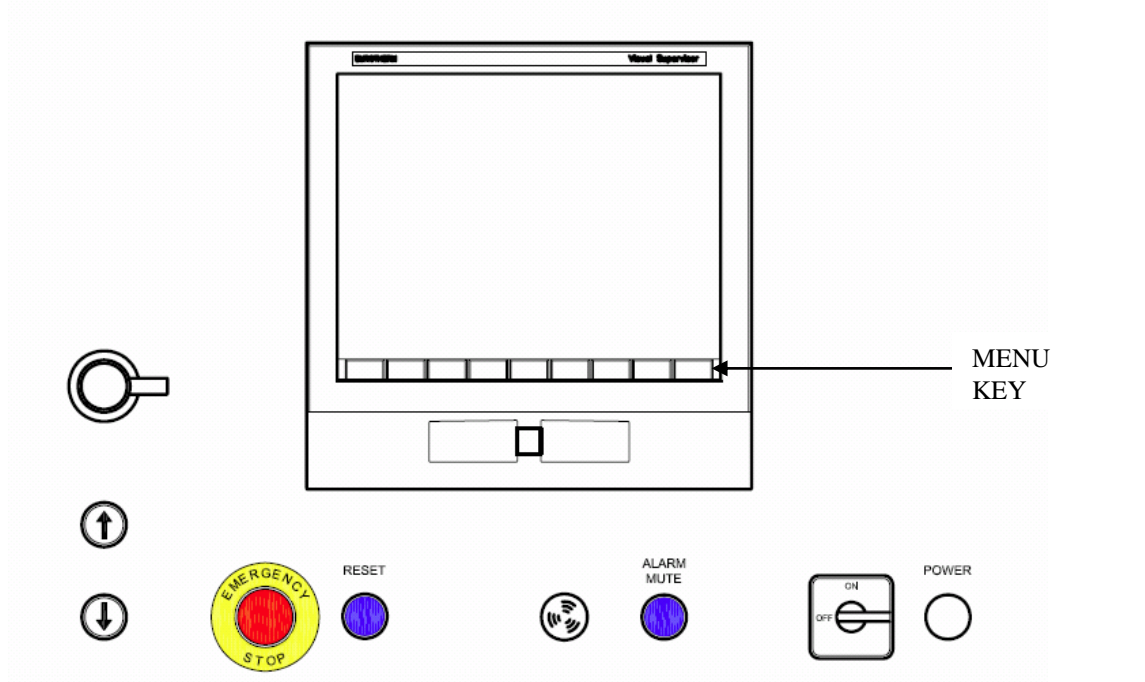

Figure 3
Power up is achieved via the control power switch located below the operator interface (see Figure 3)
A power indicator illuminates to confirm that control system is on. (see Figure 3)
**Note:** The stoppering facility cannot be operated however until the 'RESET' button is pressed. (See figure 3)
**Power down** is achieved via the control power switch located below the operator interface (see Figure 3)
- Press the MENU printed key (see figure 3)